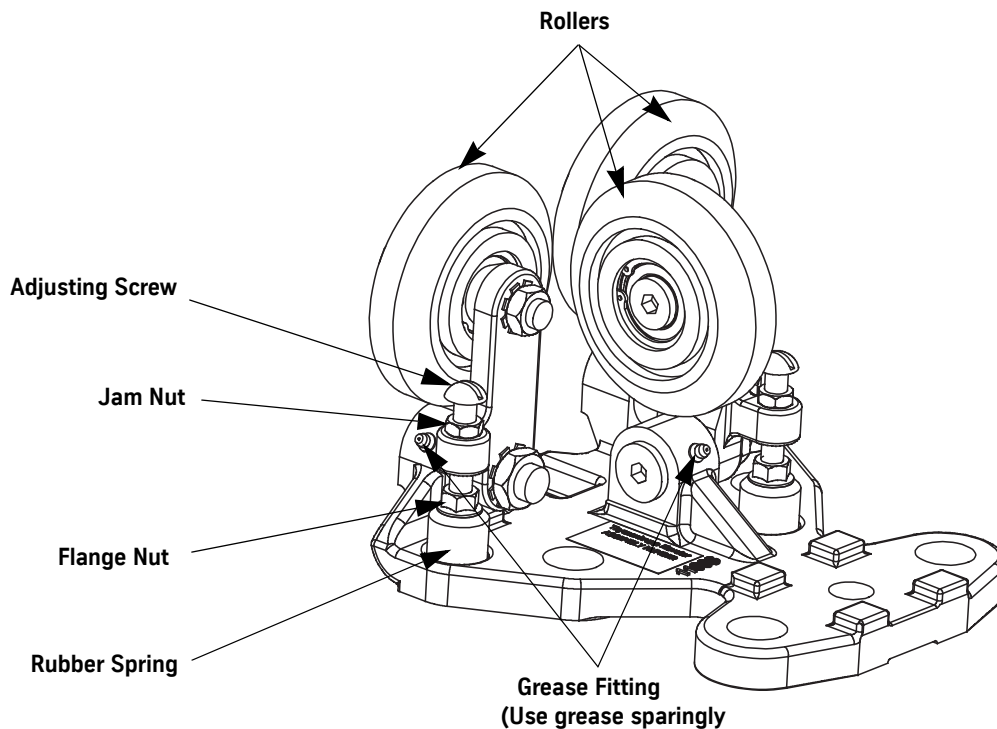

Figure 9 - 4-Inch Roller Guide Assembly 67960
2. Back off all adjusting screws and flange nuts until the roller arms lean away from the safety slot in the base. For this step and all remaining steps in this procedure, see Figure 9.